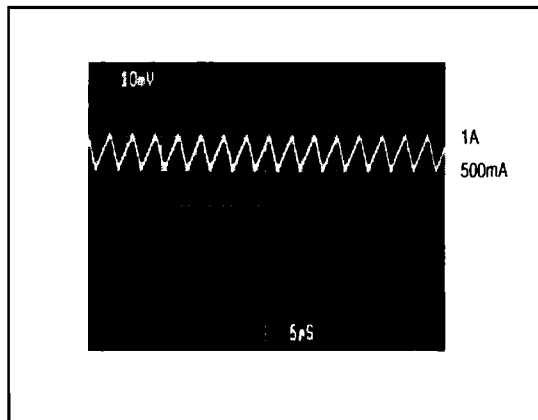

Figure 4a. CCM, Heavy Load Current Waveform (500mA/div)
The MAX761/MAX762 also limit the peak inductor current, allowing the devices to run in continuous-conduction mode (CCM) and maintain high efficiency with heavy loads (Figure 4a). This current-limiting feature is a key component of the control circuitry. Once turned on, the switch stays on until either (1) the maximum on-time one-shot turns it off ($8\mu\text{s}$ later), or (2) the current limit is reached.
The coil's inductance need not satisfy this criterion exactly, as the circuit can tolerate a wide range of values. Larger inductance values tend to produce physically larger coils and increase the start-up time, but are otherwise acceptable. Smaller inductance values allow the coil current to ramp up to higher levels before the switch can turn off, producing higher ripple at light loads. In general, an $18\mu\text{H}$ inductor is sufficient for most applications ($V_{IN} \leq 5\text{V}$). An $18\mu\text{H}$ inductor is appropriate for input voltages up to 3.6V, as calculated above. However, the same $18\mu\text{H}$ coil can be used with input voltages up to 5V with only small increases in peak current, as shown in Figures 4a and 4b.